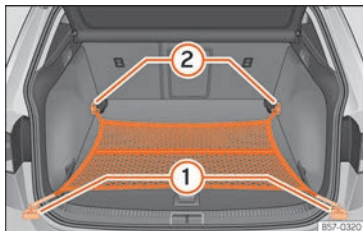

Fig. 123 In the luggage compartment: net bag hooked up at floor level.
- Secure the net hooks to the fastening rings ① and ② »»» Fig. 123 »»» ⚠. The bag zip should be facing upwards.